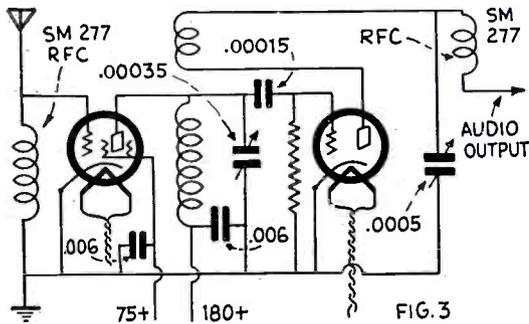

Fig. 3—Circuit for use with S-M 110 series coils with .00035 m.f. tuning condenser.
A. 1. The circuit is shown in Fig. 3. Tuning with such large condensers will be almost impossible below about 100 meters, even with a really high-ratio vernier dial. There is still another great disadvantage in the use of a .00035-mfd. tuning condenser; and that is loss of sensitivity. As a vacuum tube is a voltage-operated device and a large capacity in a tuned circuit reduces the voltage the reason is quite apparent.
Q. 1. Re the article on page 135 (August-September issue), can a Hammarlund 85-mh. radio-frequency choke be used at R. F. C. in Fig. 3?